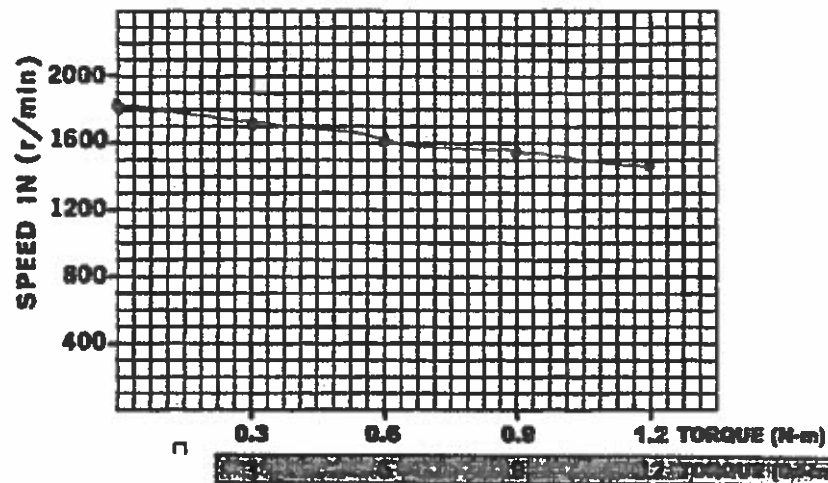

Figure 24-2.
7. a. Plot the recorded motor speed values from Table 24-1 on the graph of Figure 24-2.